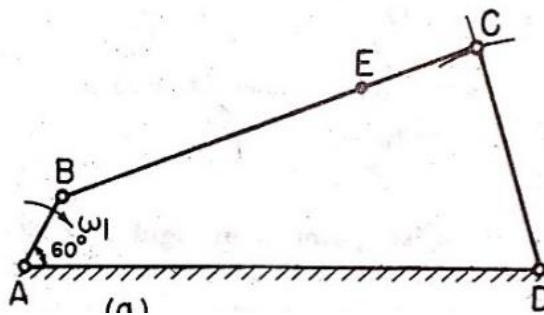

Fig. 2b
b) A pin jointed 4-bar linkage shown in Fig. 2b, is having dimensions  $AB = 0.5\text{m}$ ,  $BC = 3\text{m}$ ,  $DC = 1.5\text{m}$ ,  $AD = 3.5\text{m}$  and  $BE = 2.25\text{m}$ . The link AB revolves at 20 rpm and angle  $BAD = 60^\circ$ . Find; (i) angular velocities of links CD&BC and (ii) Linear velocity of point E. **14**